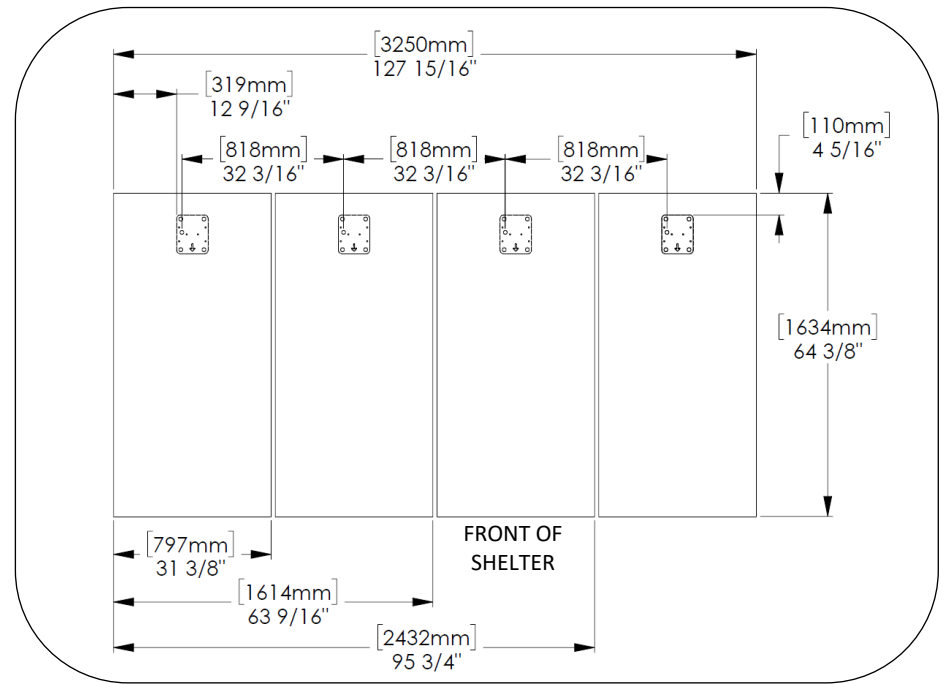

FIG. 4 – PLAN VIEW OF SHELTER WITH ANCHOR TEMPLATE SPACING
3. Place anchor template assembly in new pour concrete and allow to cure. Note orientation of anchors and conduit location for front of unit. Refer to Fig. 4 for layout spacing.